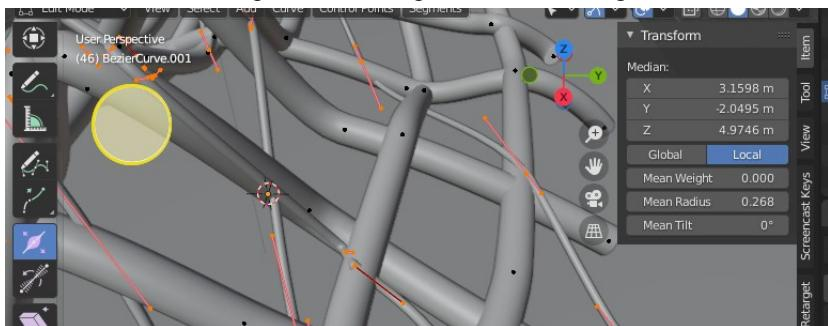

Figure 3-7 Changing the Radius of control points
4. Draw curves in alternating directions to give the impression of weaving and, for added interest, alter the Radius of some of the wires. If you just change the Depth of the Bevel you will see that all the wires change, which is not what you want. However, in the Toolbar you can select the Radius Tool and change the size of specific control points as shown Figure 3-7.